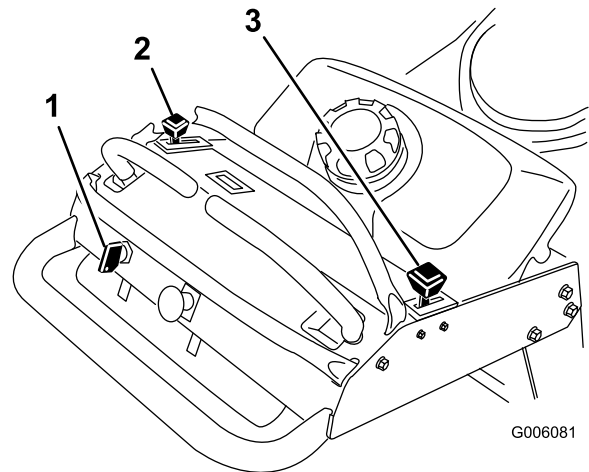

Figure 5
4. Move the throttle control to fast and move the choke lever to the on position before starting a cold engine (Figure 5).
2. Move the throttle lever to slow (Figure 5).